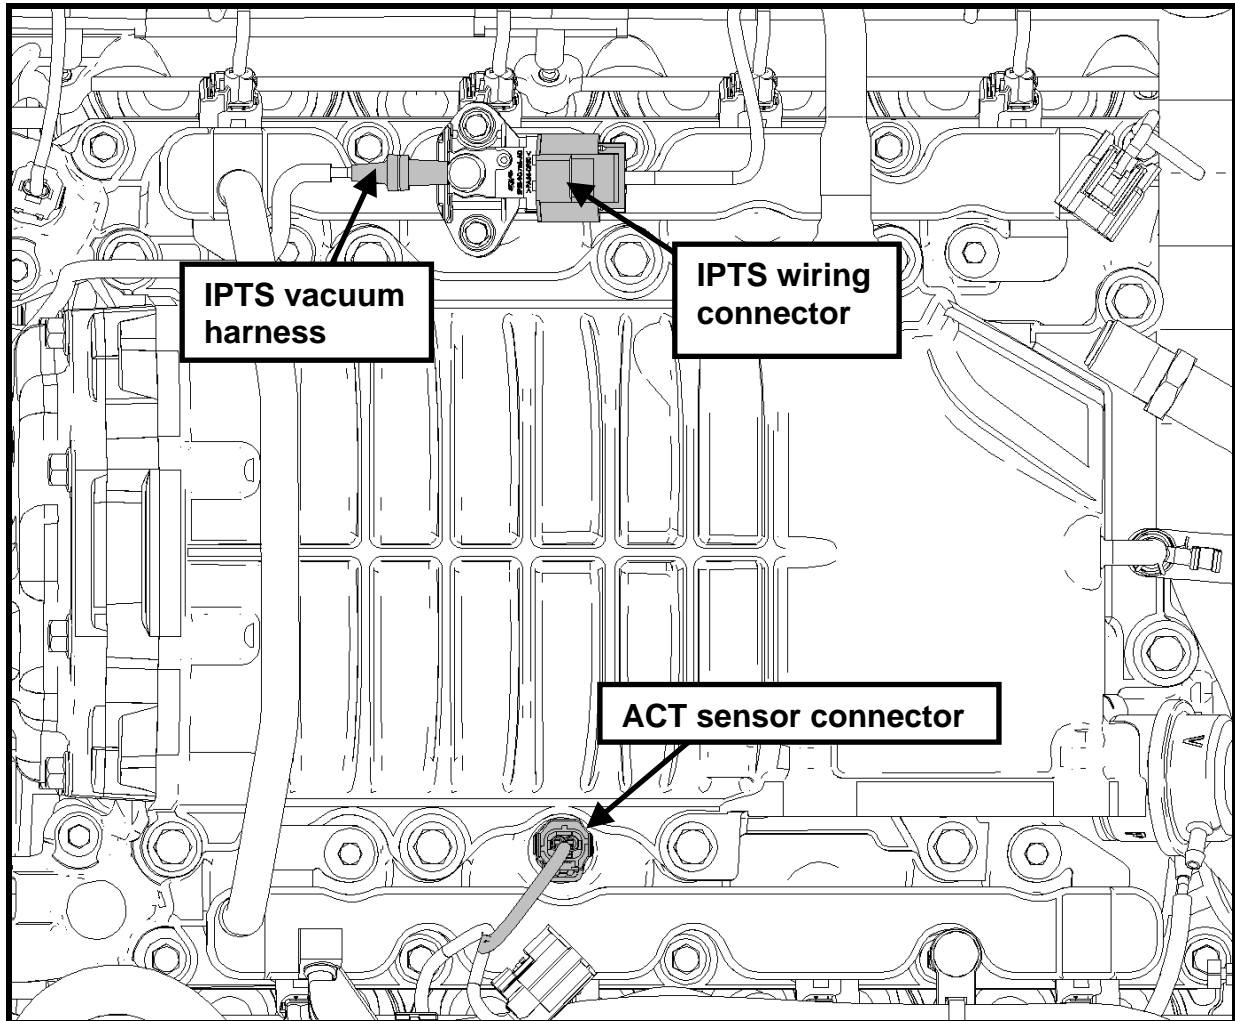

Fig. 14
STEP 14: Disconnect the wiring harness and vacuum tube from the fuel rail pressure sensor (IPTS). Disconnect the wiring harness from the ACT sensor (See Fig. 14).